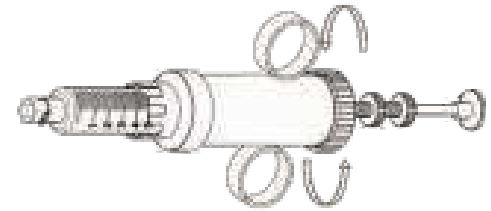

Fig. 9
You can open and adjust the handle cap (16), if so needed to slightly adjust the fitment as shown in Fig 9.